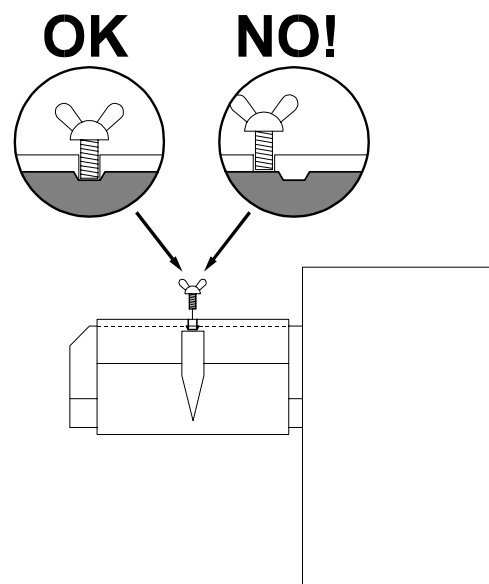

Fig. 17 Engagement of the lock screw
Position the 4-way wedge so that it is in contact with pin (C) and fasten it in place by tightening the butterfly screw (D) which must engage in hole (E) in the 2-way wedge (fig. 17).